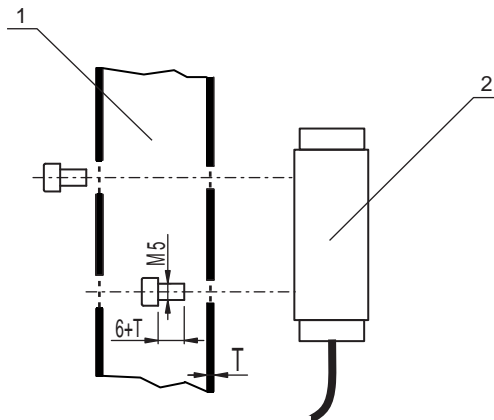

Figure 6.1: Hinge mounts; length of the fastening screws = 6 + T mm
- M5 fastening screws of the correct length (see figure 6.1)
- ↗ Measure the length of the M5 screws exactly(see figure 6.1).